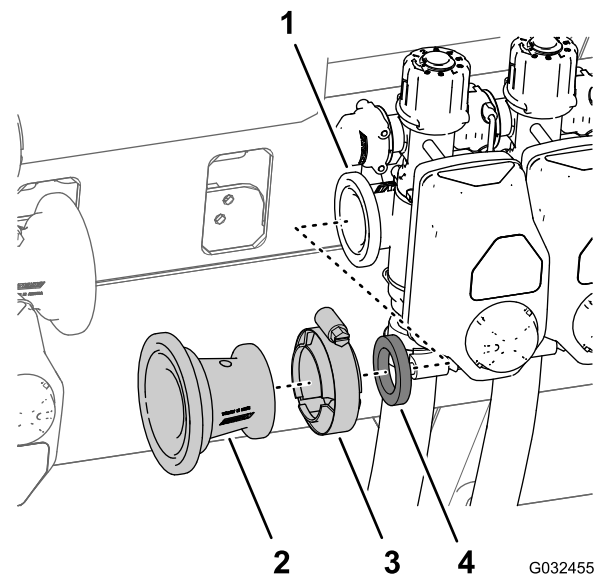

Figure 35
C. Remove the flange clamp 76 mm (3 inches) that secures the reducer adapter and gasket (2-1/4 inches) to the flange of the left boom-section valve, and remove the adapter, clamp and gasket from the machine (Figure 35).